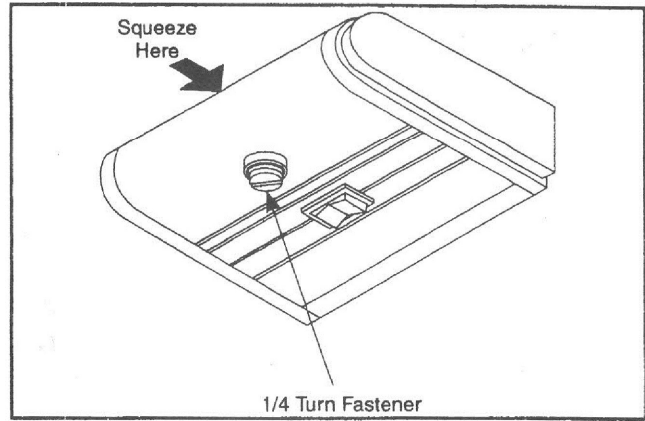

Figure 3. (Shown with - RSW Optional Rocker Switch)
1. Refer to Figure 3, use an appropriate tool to loosen the 1/4 turn fastener, gently squeeze the wireway cover and carefully pivot the cover down until it hangs from its rear hinge.